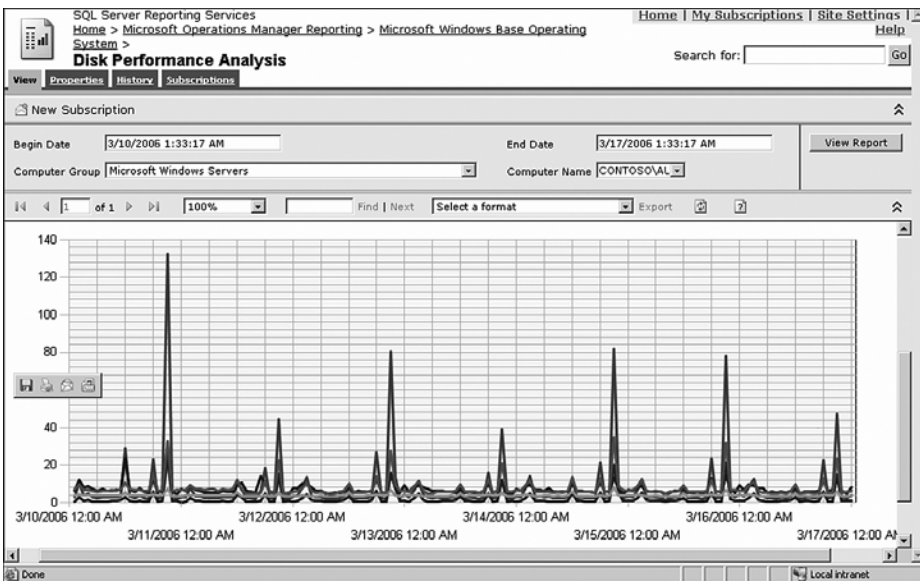

FIGURE 21.10 Disk Performance Analysis graph.
7. Click the View Report button. A green progress animation is displayed while data for the report is gathered and the report is rendered. In several seconds a graph displays, showing the disk performance analysis for the computer you selected. Your report should look similar to the one shown in Figure 21.10.